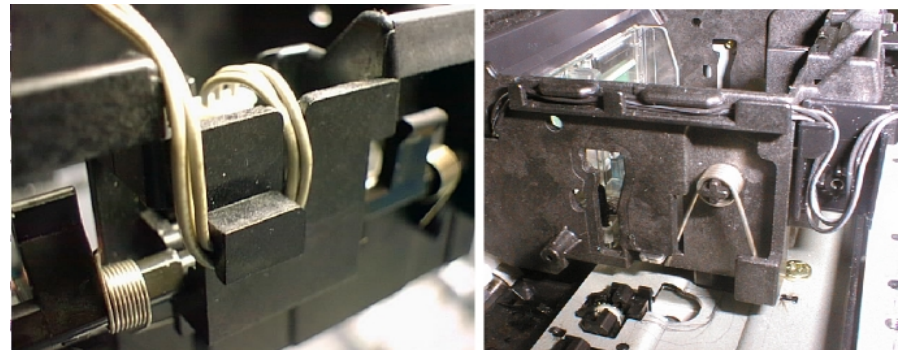

Figure 4-55. Placing the I/C Detector Cables
- Ensure that the I/C Detector Cables are placed along the gutters as Figure 4-55.